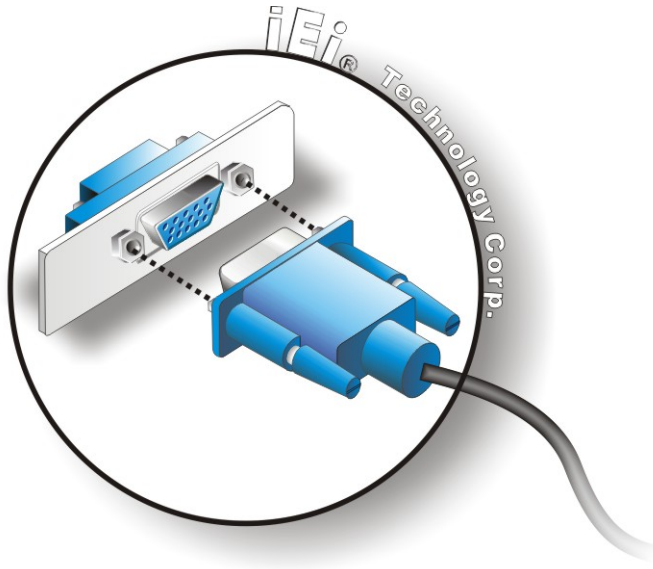

Figure 3-25: VGA Connector
- Step 3: Insert the VGA connector** Once the connectors are properly aligned with the insert the male connector from the VGA screen into the female connector on the ECN-381B. See **Figure 3-25**.